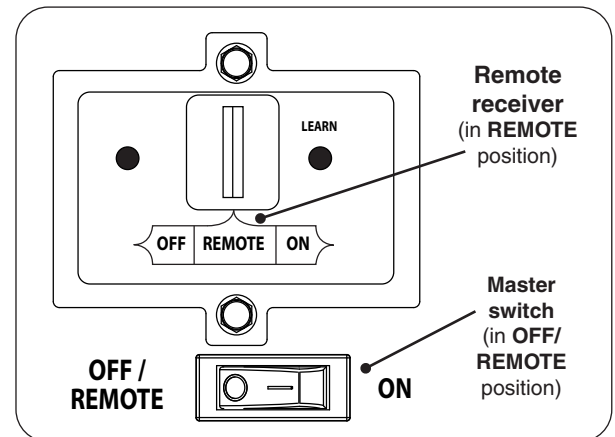

Fig. 37-1 Control panel detail
1. Ensure the master switch is in the **OFF/REMOTE** position (see Fig. 37-1).
2. Locate the 3-position switch on the remote receiver (see Fig. 37-1), and slide the switch to the **REMOTE** position.